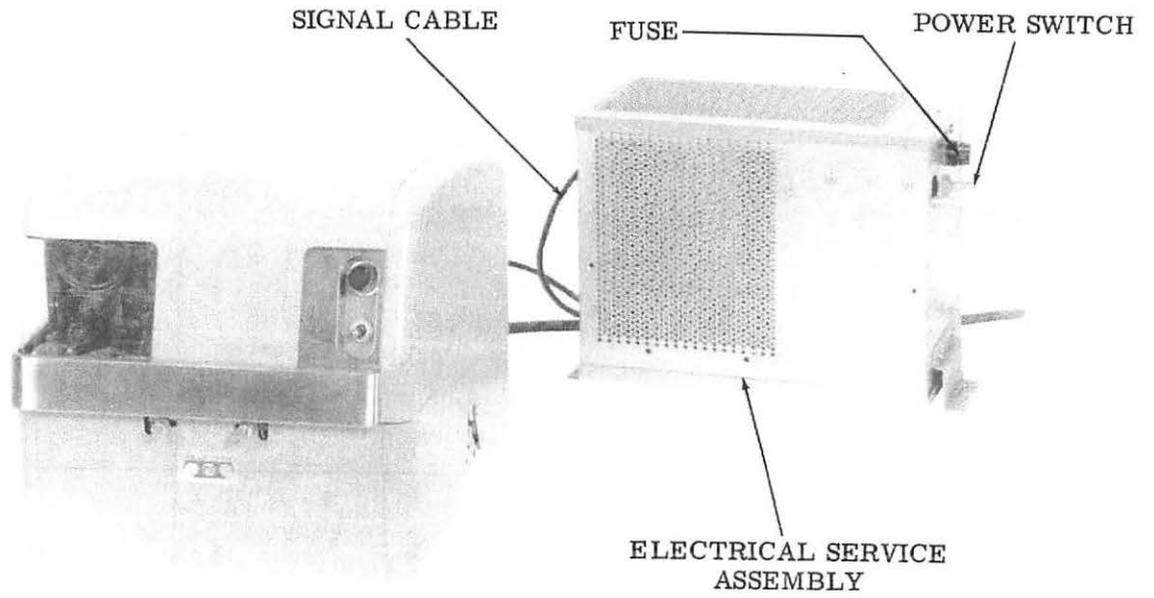

Figure 3 - Table Model Receive-Only Typing Reperforator (ROTR) Set
D. Table Model Receive-Only Typing Reperforator (ROTR) Set, Receive-Only Page Printer (RO) Set, and Receive-Only Compact Page Printer (RO) Set (Figures 3 and 4)